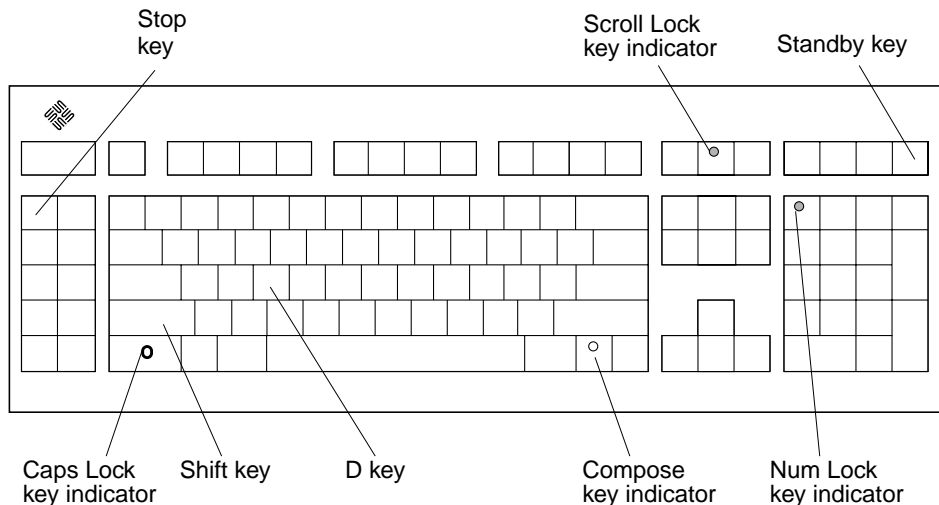
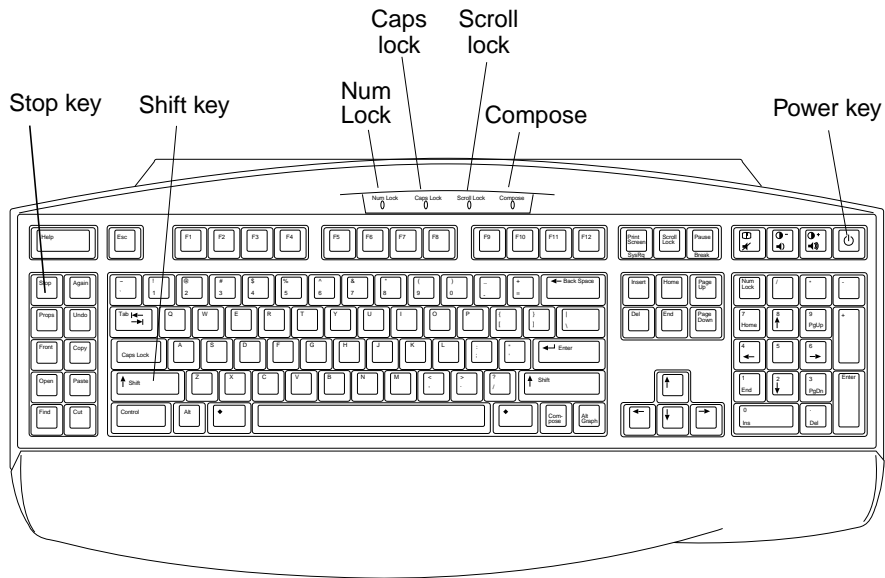

FIGURE 3-2 Sun Type-5 Keyboard
FIGURE 3-3 Sun I/O Type-6 Keyboard
- ### 2. At the keyboard (Sun Type-5 or Sun I/O Type-6), power-cycle the system by simultaneously pressing the Shift key and the Standby (Power) key. After a few seconds, press the Standby (Power) key again (see FIGURE 3-2 or FIGURE 3-3).